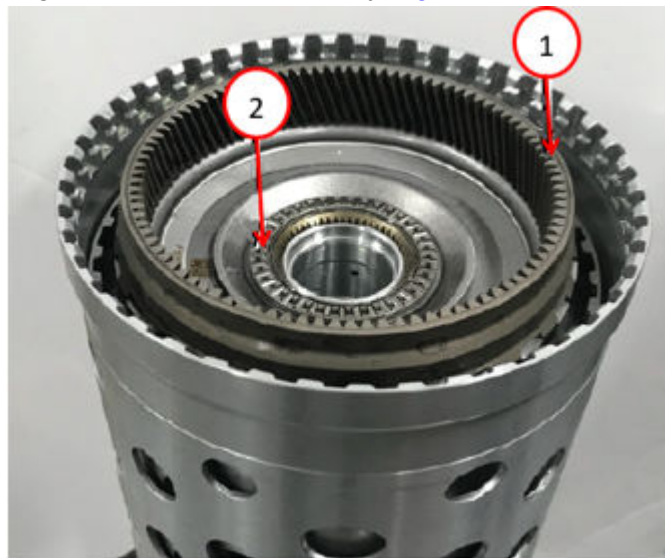

Fig. 29
42. Install the P2 annulus\P3 sun gear in the drum assembly Fig. 29.